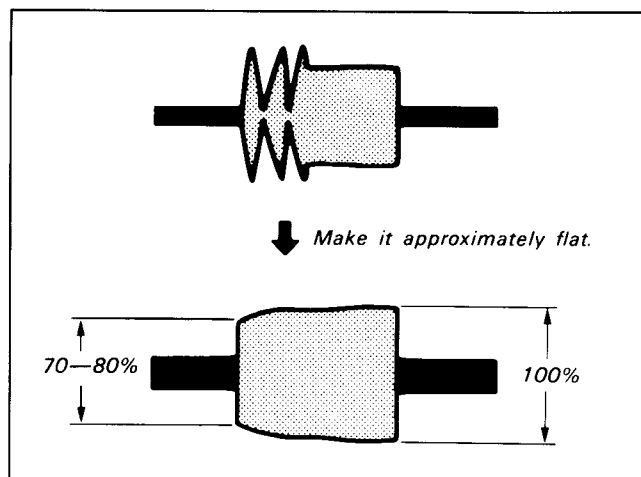

Fig. 8-74.
- 3) Slowly rotate the No.2 guide clockwise to make the entrance side waveform approximately flat (Fig. 8-74)